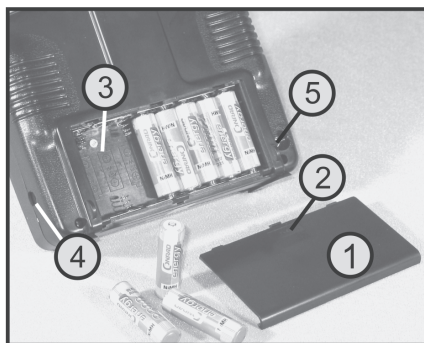

Figure 3
Either a teacher/student cable with a 3.5 mm jack connector or an interface cable for a flight simulator can be connected to the student socket (see figure 3, pos. 5).
The transmitter is equipped with a charge socket (see figure 3, pos. 4) to charge the inserted rechargeable batteries.